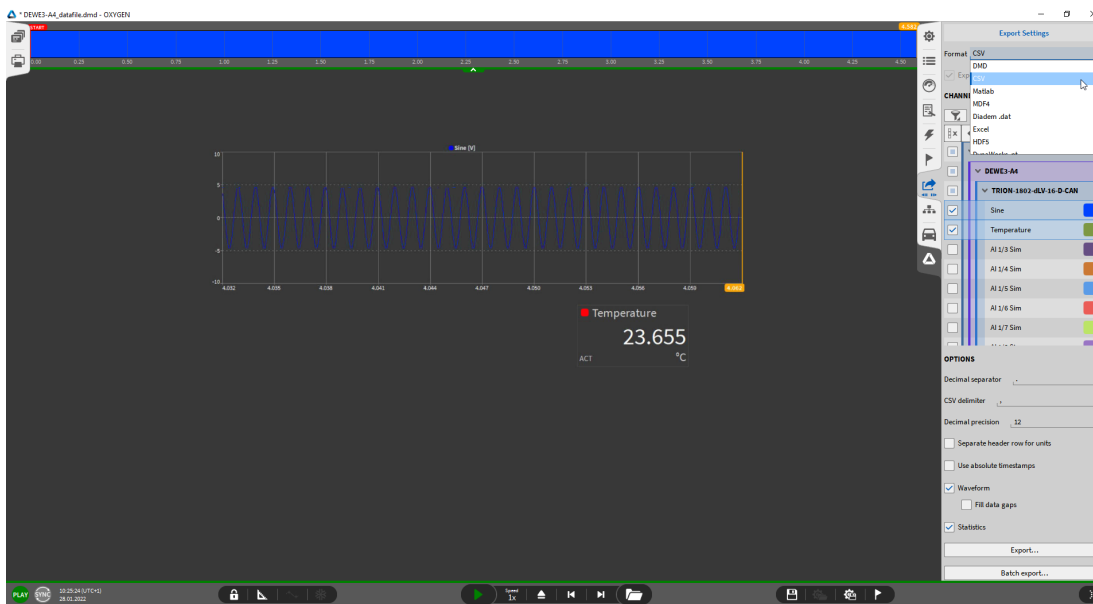

Fig. 28: Exporting data file for post-processing
The green border and PLAY indicator in the lower left corner indicate that a file is loaded for post-processing (see Fig. 28).
4. Click on the export button seen in *Fig. 28*.